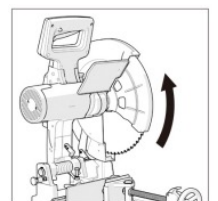

Fig. 5
- Rotate by hand to retract the lower blade guard upward to the upper blade guard. (Fig.5)